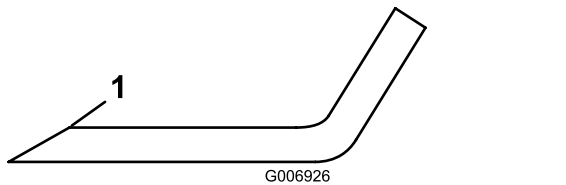

**Figure 71**
- Examine the cutting ends of the blade carefully, especially where the flat and curved parts of the blade meet (Figure 71).